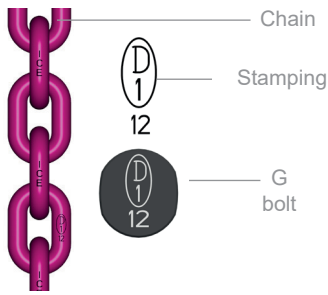

Fig.1: ICE-chain
- Quality class of the component (*Fig. 1*)
- Only utilize oval ICE-G bolts (Fig. 1) with ICE components